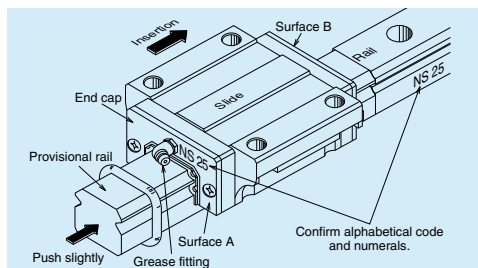

Fig. 10.23 Inserting slide into the rail
- Slides of random-matching type are assembled on a provisional rail (an inserting tool) when it is delivered (**Fig. 10.23**).
- (1) Wipe off the rust preventive oil from the rail and slide.
- (2) Please match a groove mark for the datum surface of slide and rail to set a desired assembling state W_2 or W_3 .
- (3) Align the provisional rail to the rail in the bottom and side surfaces. Press the provisional rail lightly against the rail, and move the slide over the rail (**Fig. 10.23**).